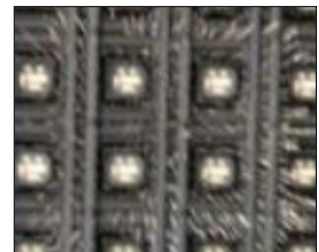

Figure 6: Magnetic Dust
3. Hold the towel over a waste receptacle and remove the magnet from the towel. Shake out the towel to discard particles. Refer to **Figure 6**.